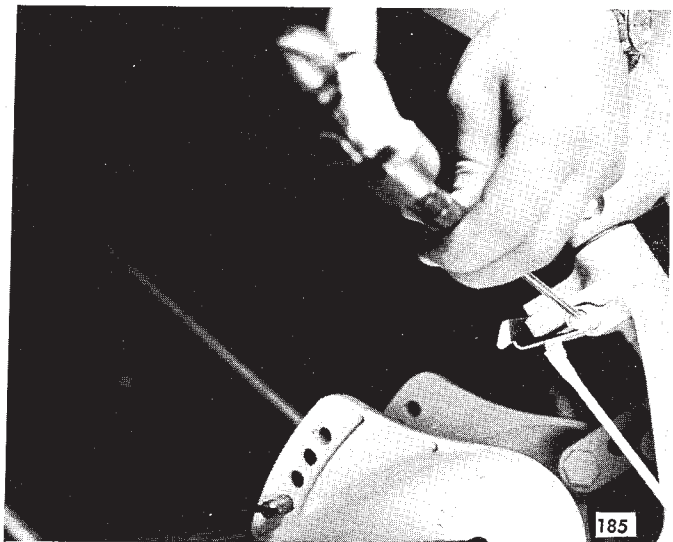

FIGURE 38 — REMOVING REVERSE LOCK GROOVE PIN
6. Drive reverse lock groove pin out of swivel bracket from starboard side using a punch slightly smaller in diameter than the diameter of the reverse lock groove pin, as shown in Figure 38.